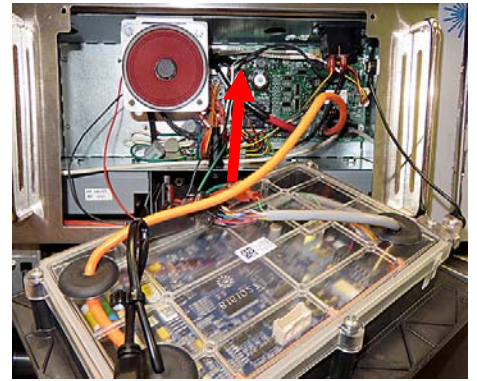

Figure 7
7. Lower the controller and rest it on the bottom of the control box (see Figure 7). The black tether on the right will support the controller.
8. Disconnect the RJ45 cable from the SIB board **FIRST** (see Figures 7 and 8).